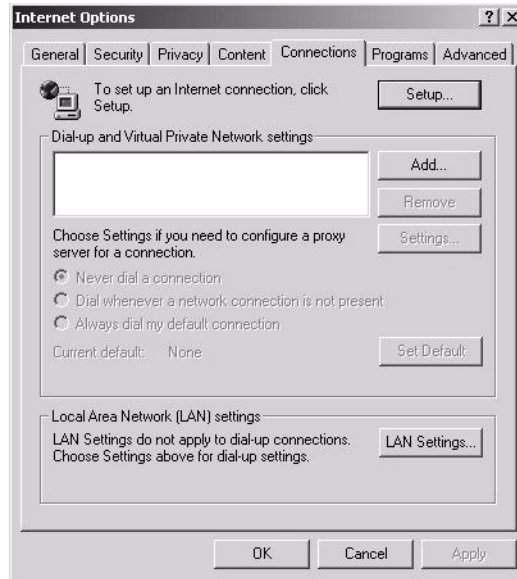

Figure 79: Selecting the Connections tab
4. Select the Connections tab as shown in Figure 79.